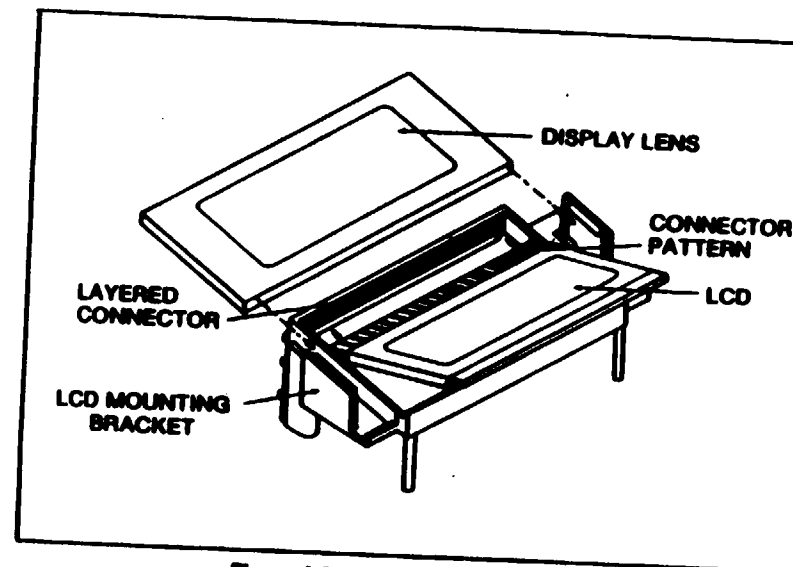

Figure 4-2. LCD Display Assembly
- 4-14. Refer to Figure 4-2 and the following procedure to remove/replace the LCD assembly.